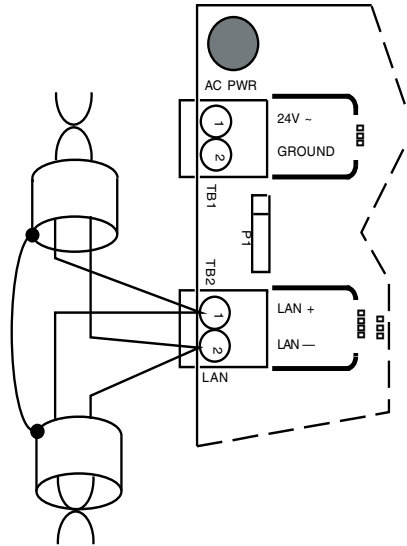

Figure 20. LAN Connection
1. Connect the + lead of the twisted pair subLAN cable to terminal TB2-1 (LAN+, see Figure 20).